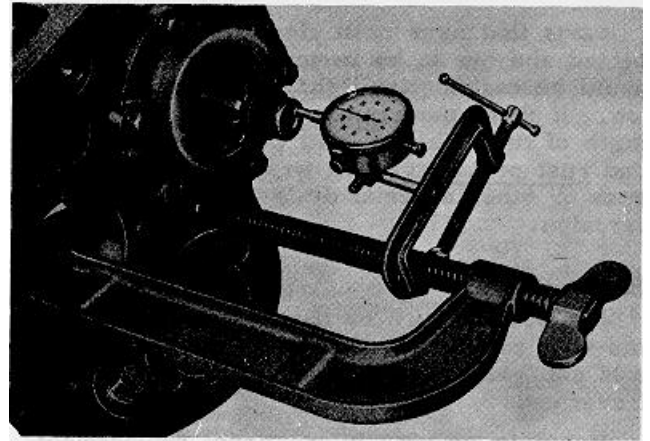

Fig. 26.
7. Mount a dial indicator on the unit. Set stem against front end of input shaft and check the amount of end play in the assembly (Fig. 26). Remove enough shims from under bearing cap to arrive at an adjustment of .076 mm - .127 mm (.003" - .005") end play.